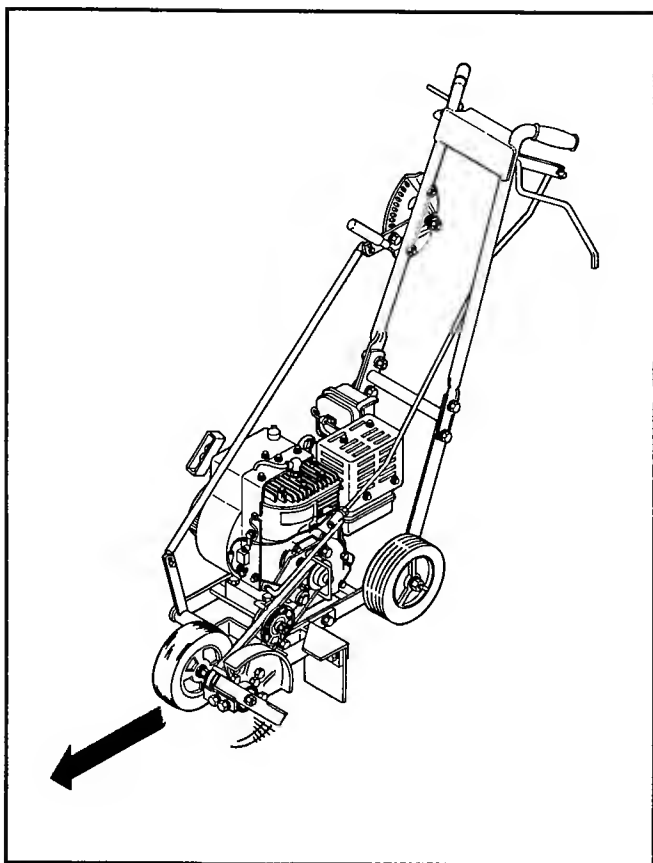

Figure 2
- Keep the area of operation clear of all persons and pets. (Figure 2)